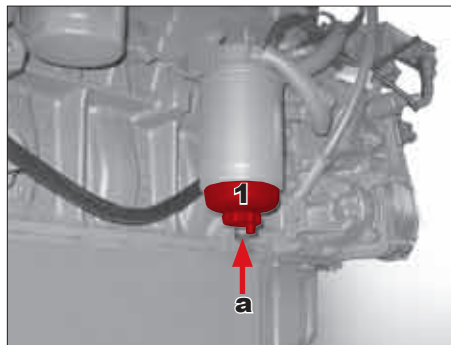

Fig. 79
1. Place a receptacle under the water separator Item 1 (Fig. 79).
2. Unscrew the drain plug from the inspection glass Item a (Fig. 79).